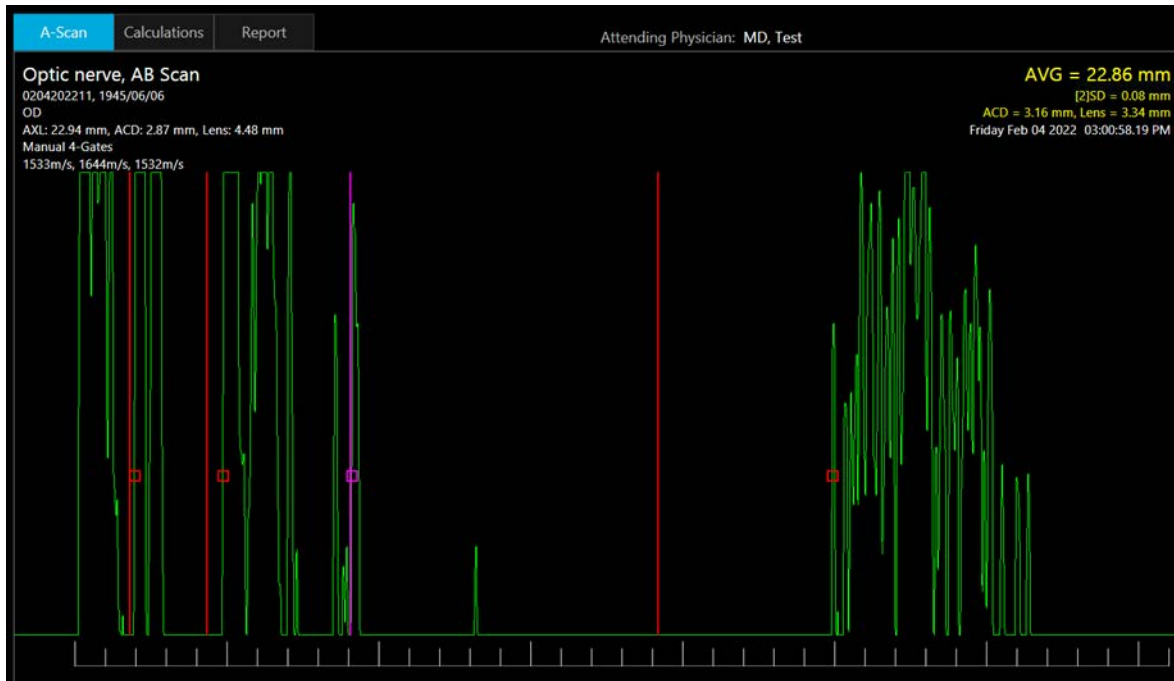

Figure 20: Standard A-Scan Spikes
- ⑦ The A-Scan will show the same spikes shown in the previous screen, Figure 20. The operation is standard A-Scan from this point forward.